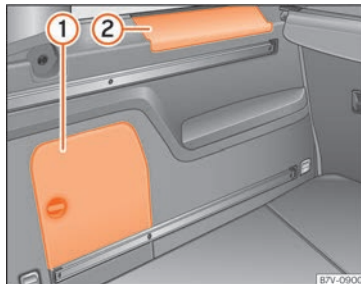

Fig. 167 In the luggage compartment: side storage compartment.
There are other compartments » Fig. 167 (1) and (2) in the side of the boot. To open the